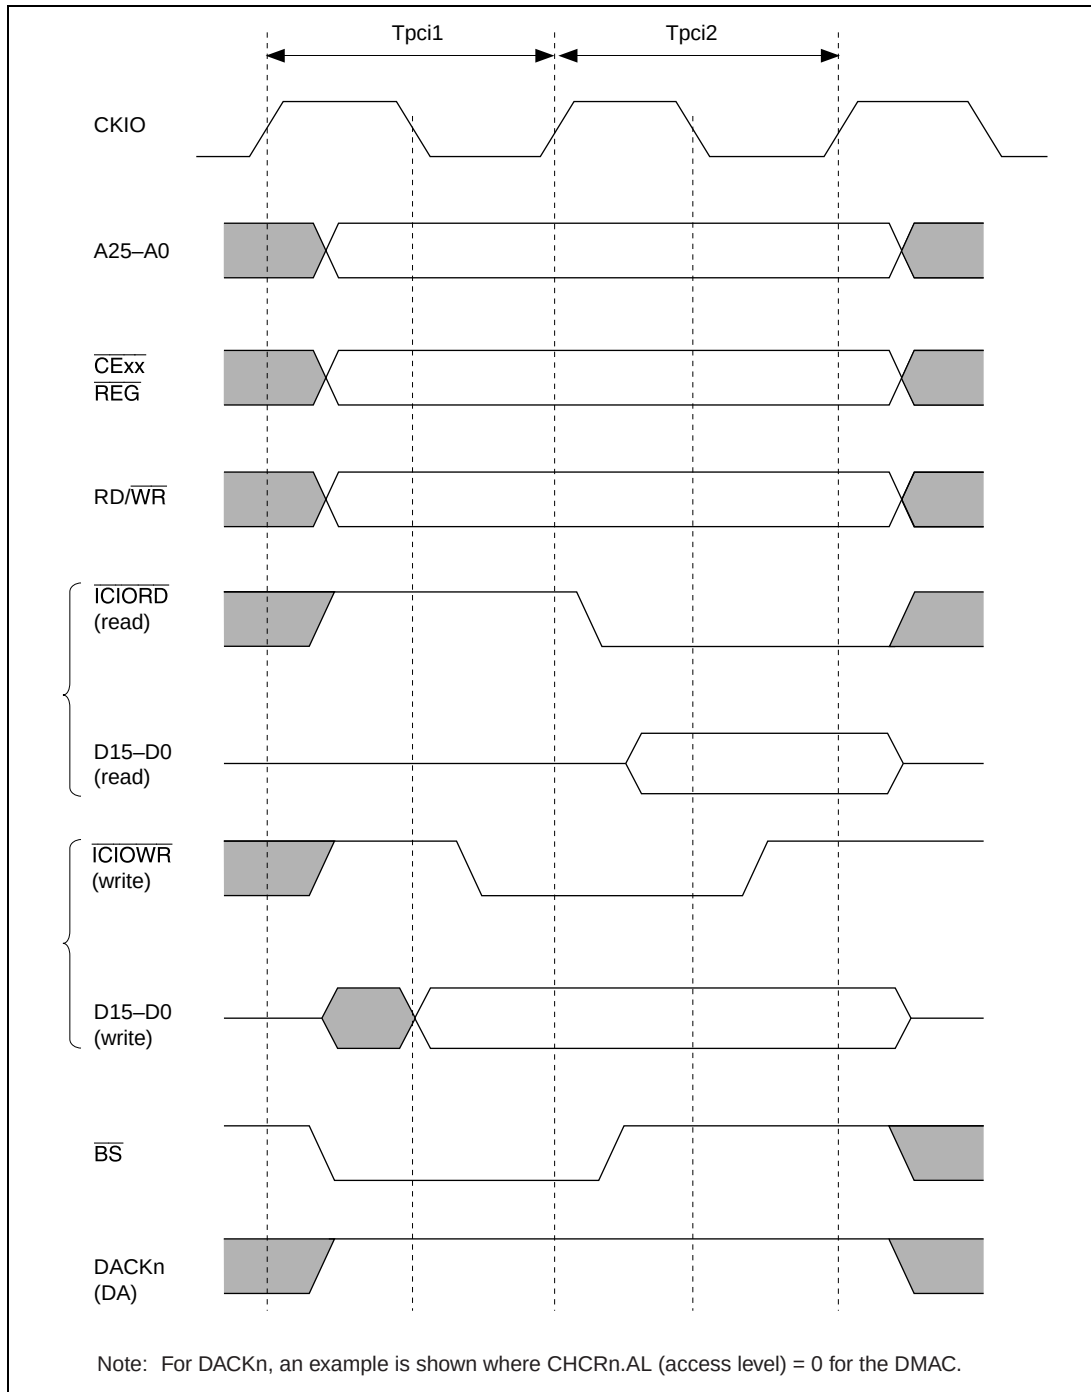

**Figure 13.48 Basic Timing for PCMCIA I/O Card Interface**
**I/O Card Interface Timing:** Figures 13.48 and 13.49 show the timing for the PCMCIA I/O card interface.